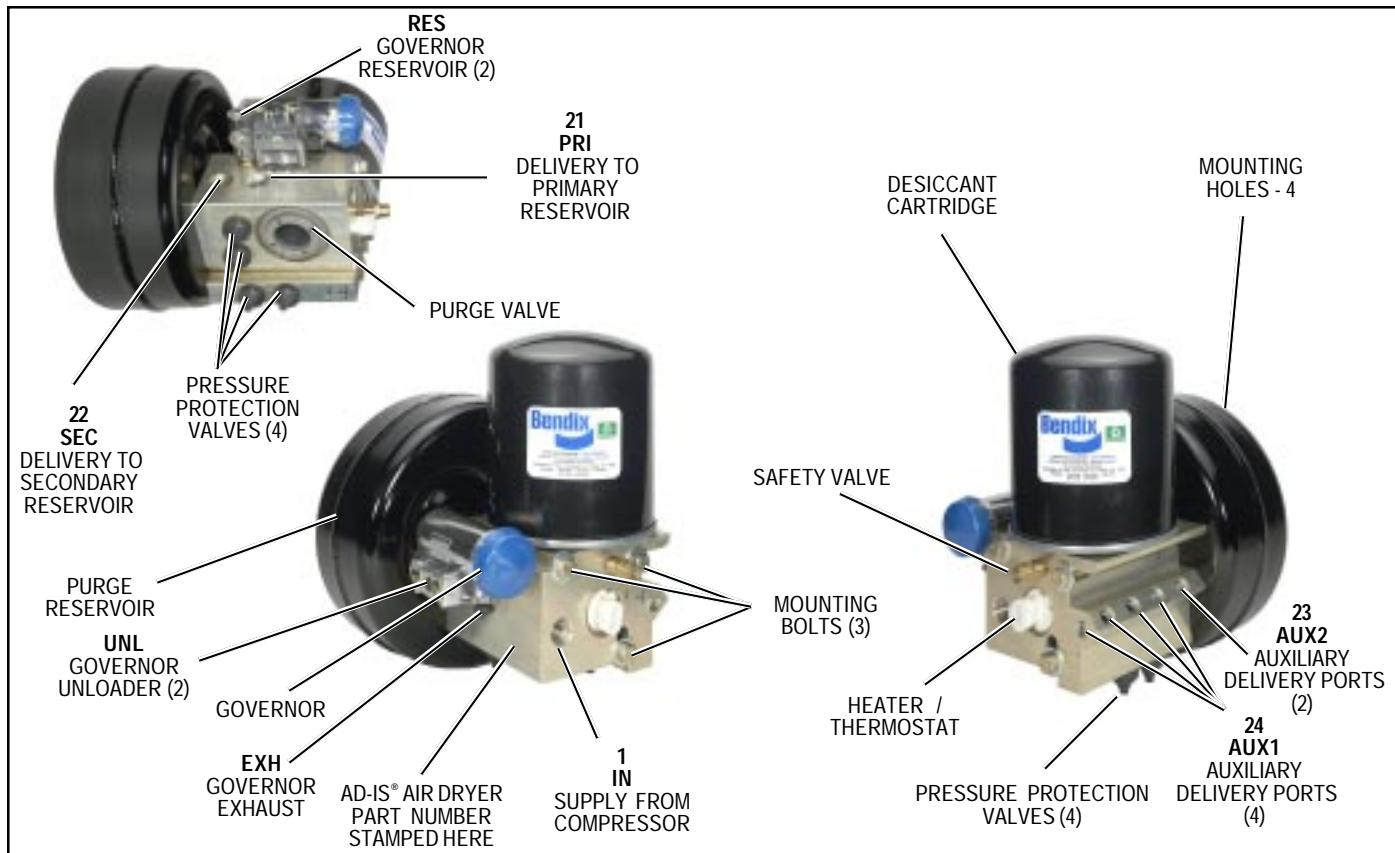

FIGURE 1 - AD-IS® AIR DRYER AND RESERVOIR SYSTEM
3. Check the AD-IS® air dryer and purge reservoir bolts for tightness. See Figure 1. Re-torque the three air dryer bolts to 360-420 inch pounds and the four purge reservoir bolts to 300-360 inch pounds.